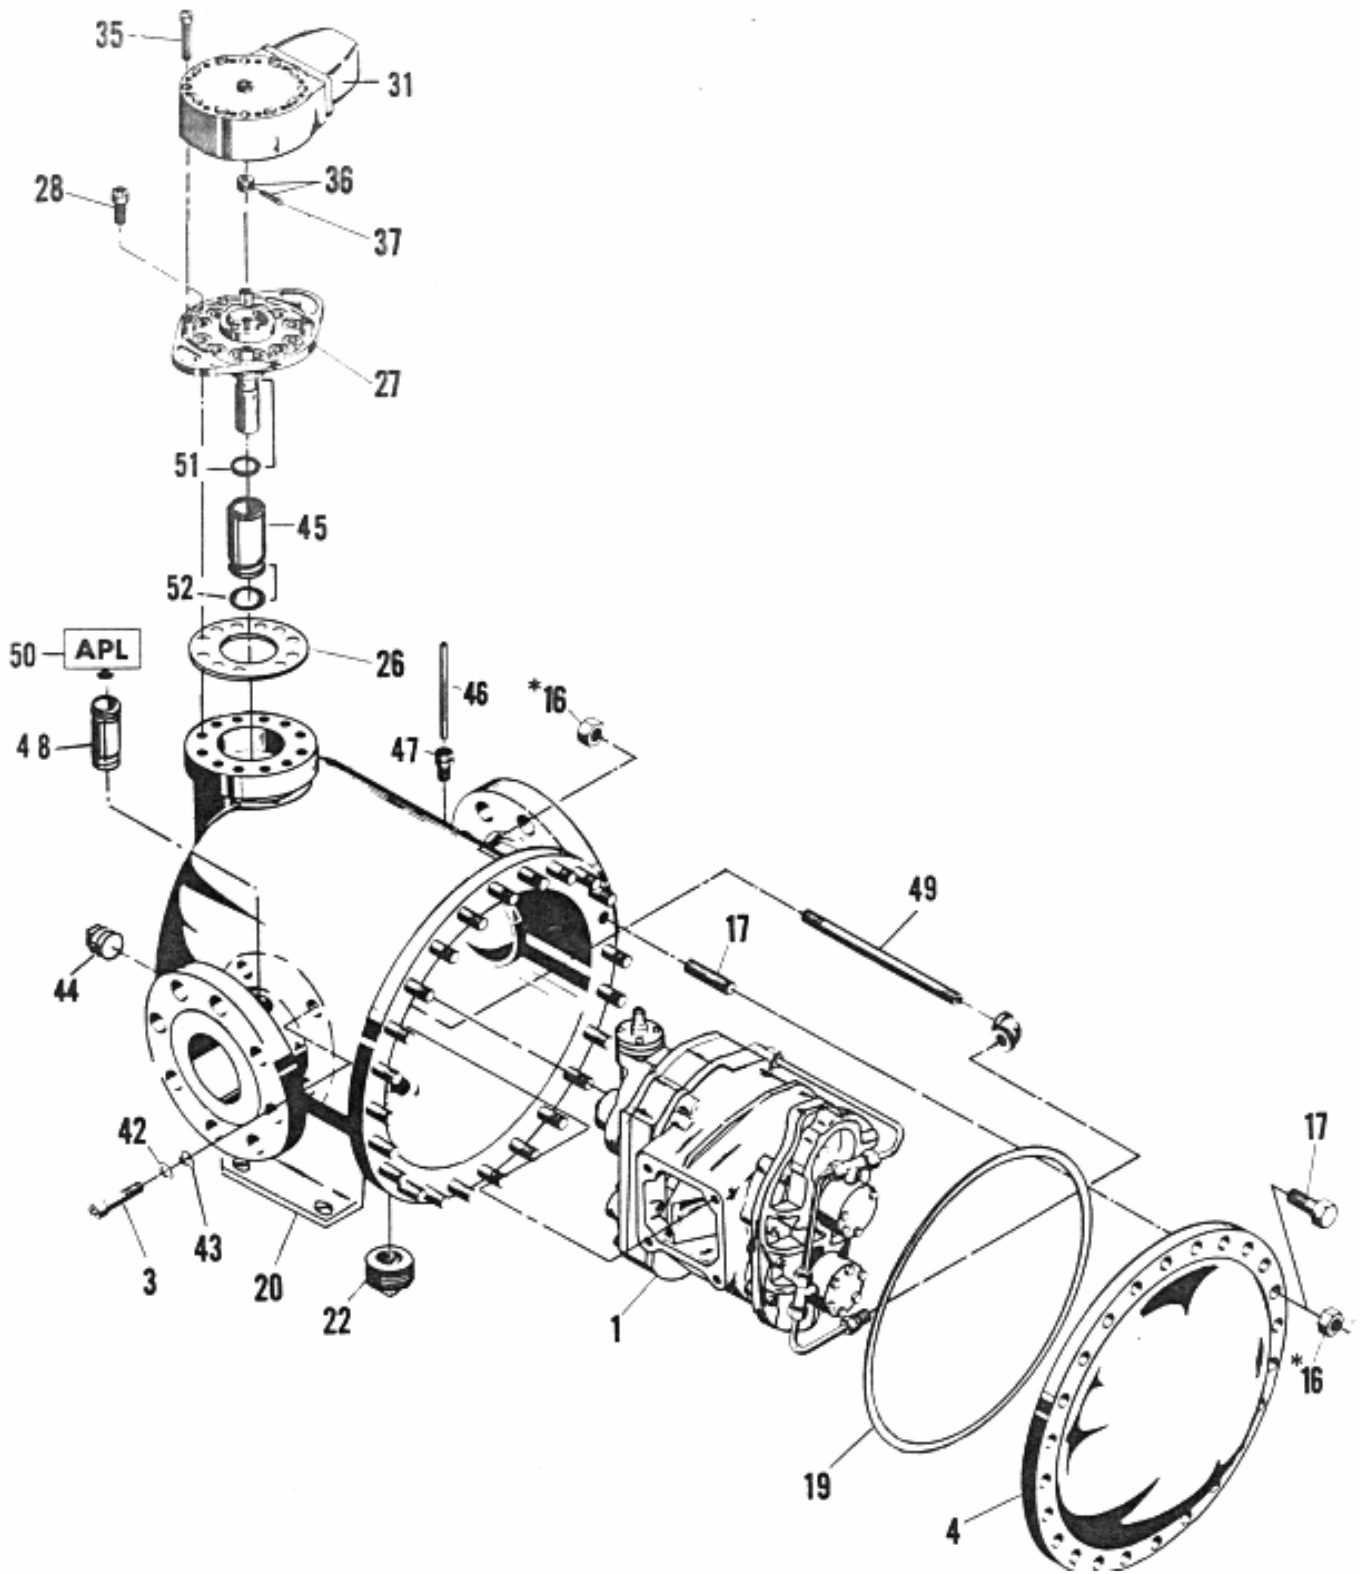

Figure 6-1 Complete Meter Assembly
2. Replace front bearing caps (items 46 and/or 48), O-ring or gasket (item 60). Secure with lockwashers (item 21) and screws (item 47).
3. Attach piping to the measuring unit (item 1).
4. Position measuring unit into meter as shown in Figure 6-1 so that the inlet on measuring unit couples with inlet on meter housing.
5. Replace screws (item 3), washer (item 42) and seal washer (item 43) attaching measuring unit to meter housing (item 20).
6. Replace housing cover (item 4) and front dome gasket (item 19). Secure with screws (item 17) and nuts (item 16).
Table 4-1 Torque Specifications B-173DEB thru B-195DEB (Refer to Figure 6-1)
(Reference Figure 6-1)**